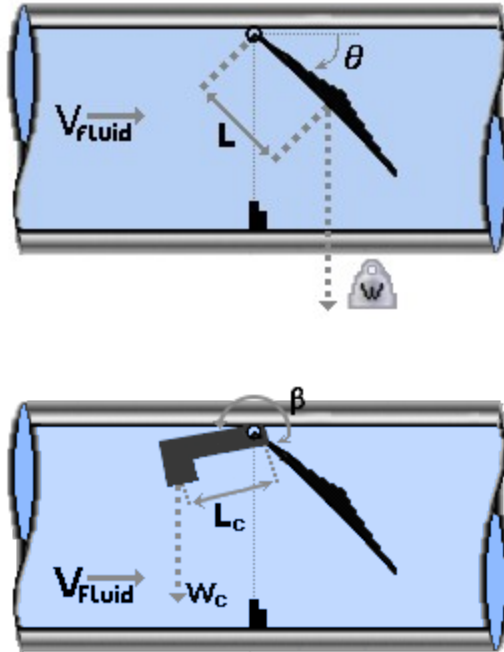

Figure 1: Swing Check valve diagram and optional Counterweight diagram
The Swing Check Valve model uses a torque balance to estimate rate and position over time for a swing check valve. The inputs for the swing check valve are as follows (reference Figure 1):
- Lever Angle (β) - The angle of the lever relative to the disk assembly about the pivot point. A positive beta denotes an angle counter-clockwise from the disk assembly to the lever (see Figure 1 above).
- **Spring Torque With Valve Closed (T)** - The residual torque exerted by the spring when valve is fully closed. The value is zero if there is no spring torque when the valve is closed.